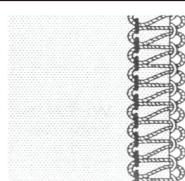

Fig. 3
Loops may hang off the edge, when you sew with lightweight fabric using 3 threads (right needle only), and setting cutting width dial at 4-5(Fig.3). In such a case change the stitch finger(A) to (B) to get neat stitching (Fig.4)